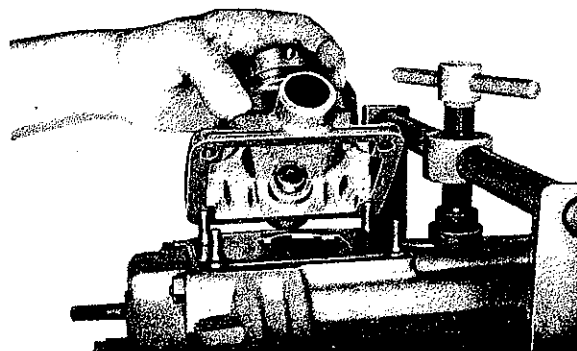

Fig. 58
Place gasket (618) and washer (617) on housing. Place shift head (616) on gasket (Fig. 58). Screw hex. nuts (102) with spring washers (103) underneath on studs and tighten to 2 to 2.5 kpm.